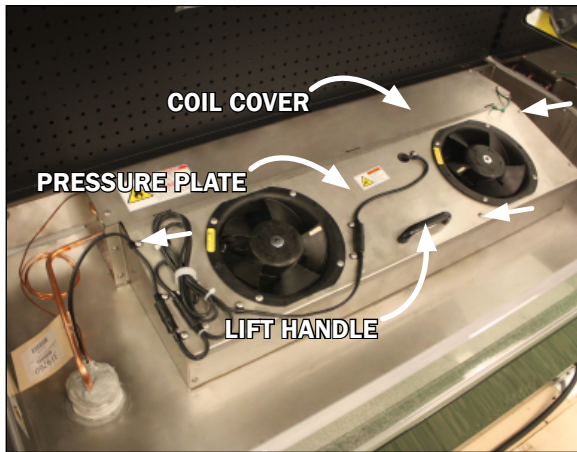

Fig. 22 Pressure plate, coil cover, screws and lift handle
3. To access the underside of the fans first remove the screws on the top ends and front sill of the pressure plate cover (Fig. 22). Lift the pressure plate by use of the provided lift handles (Fig. 22). There are hinges shared between the pressure plate and coil covers. **Note: It is recommended that more than one person lift the pressure plate.** The topside of pressure plate will rest against the topside of the coil cover, exposing the underside of the pressure plate and fans (Fig. 22).
2. Remove the top two screws at both ends of the coil cover (Fig. 22), as well as the screws from the top ends and front sill of the pressure plate cover (Fig. 22). **Be sure to save the removed screws for reassembly.**